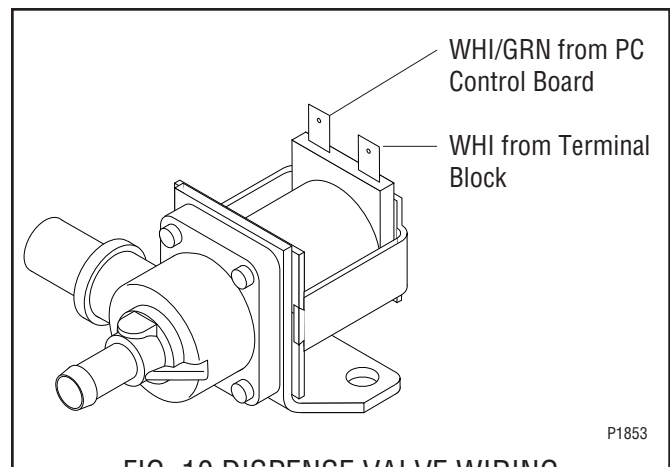

FIG. 10 DISPENSE VALVE WIRING
7. Refer to FIG. 10 when reconnecting wires.